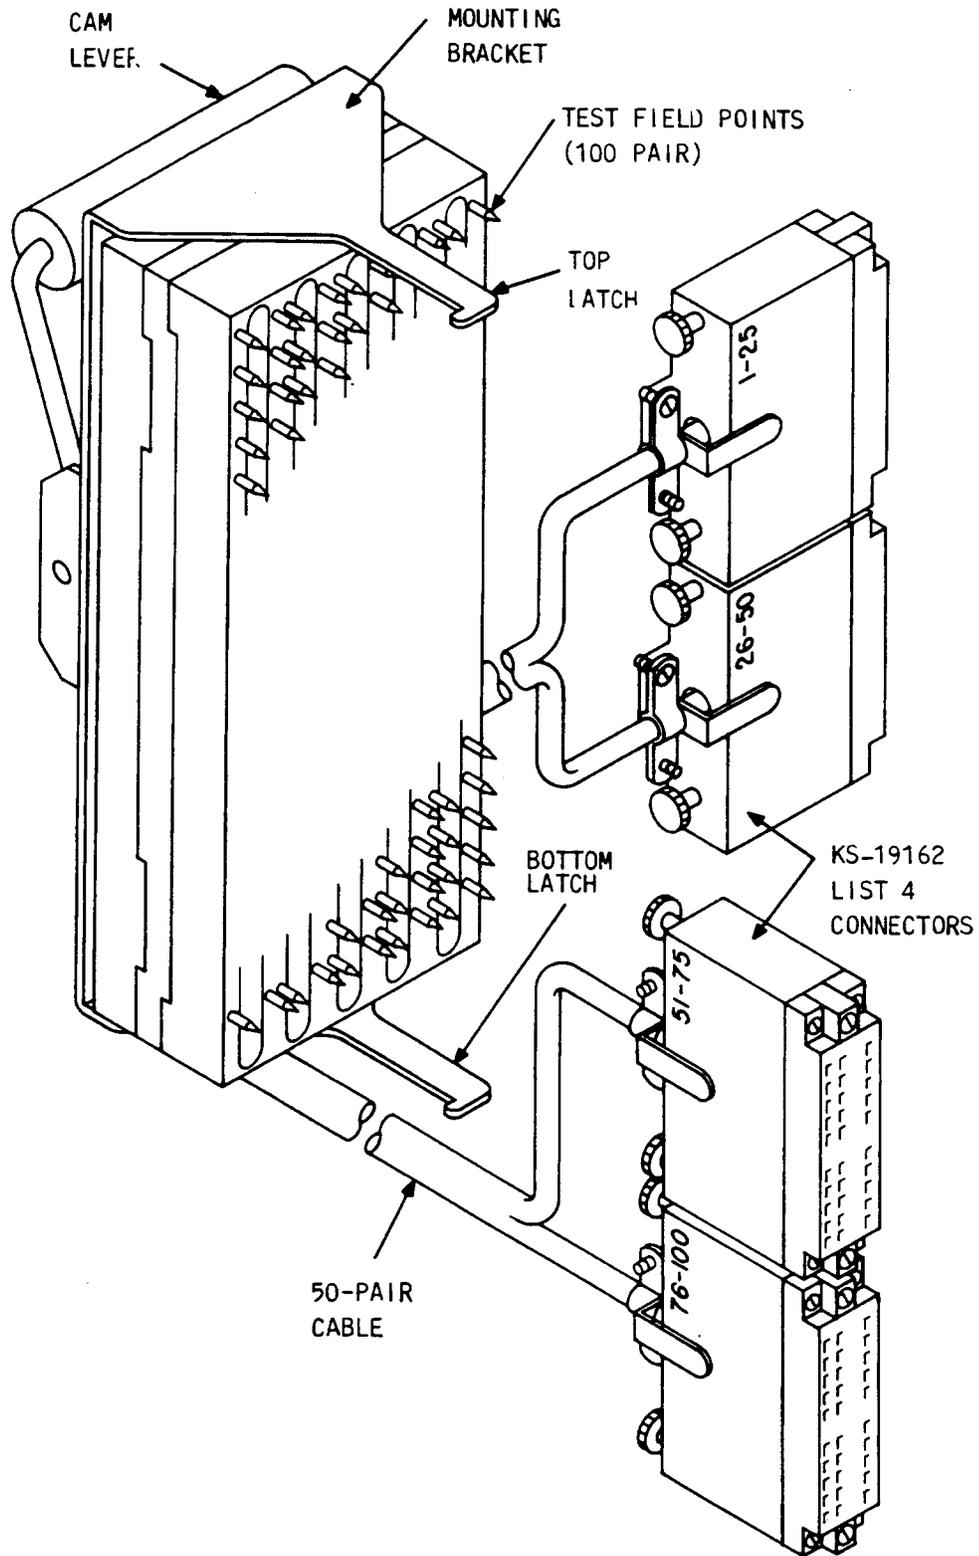
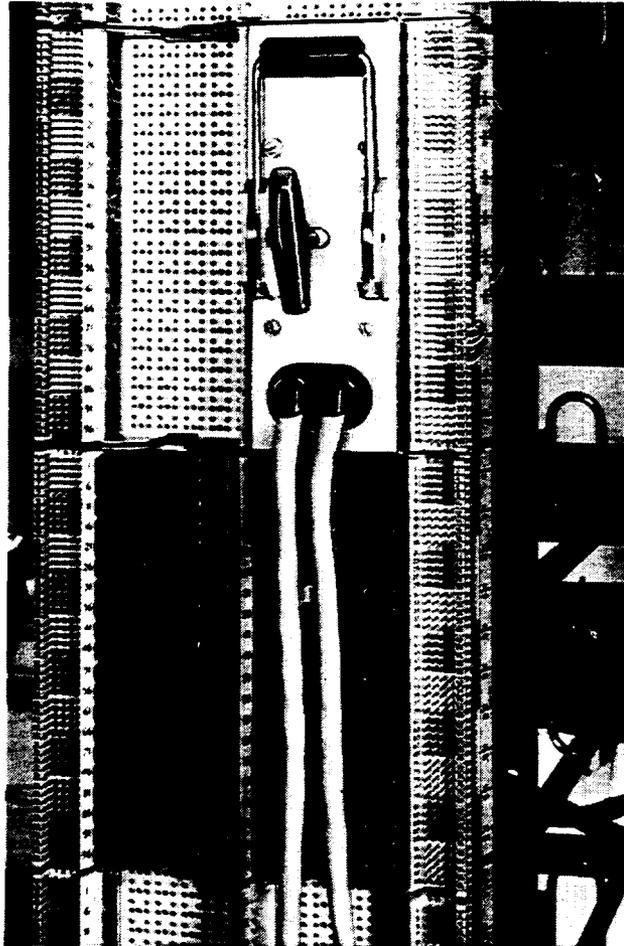

Figure 23—U Test Connector
Figure 24—U Test Connector Mounted on Unprotected Panel
7.06 The 309-type connector does not have a separate test terminal field. Test access is accomplished via the test ports on the 4C-type protector units. A 100-pair test shoe, U test connector, AT-9007 (Figure 23) is used for making multiple cable pair tests either on the protected connector with a full complement of 4C-type protector units or on the unprotected connector panel (Figure 24). The mounting bracket of the 309-type connector has notched cutouts at the top and bottom which hold the U test connector in either of the two positions (Figure 6 and 25). The U test connector is used primarily for outside plant verification in conjunction with a variety of test equipment. The test connector can be used as the access device to check for grounds, opens, shorts, reversals, and backtaps.